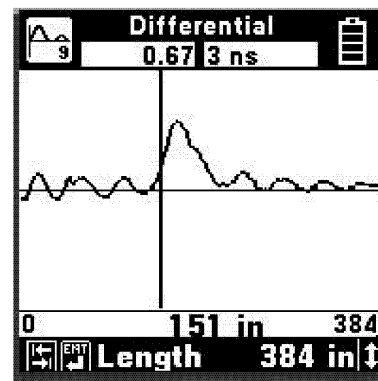

Figure 17. AST900 TDR Differential Trace Selection
d. Differential Trace (Figure 17).